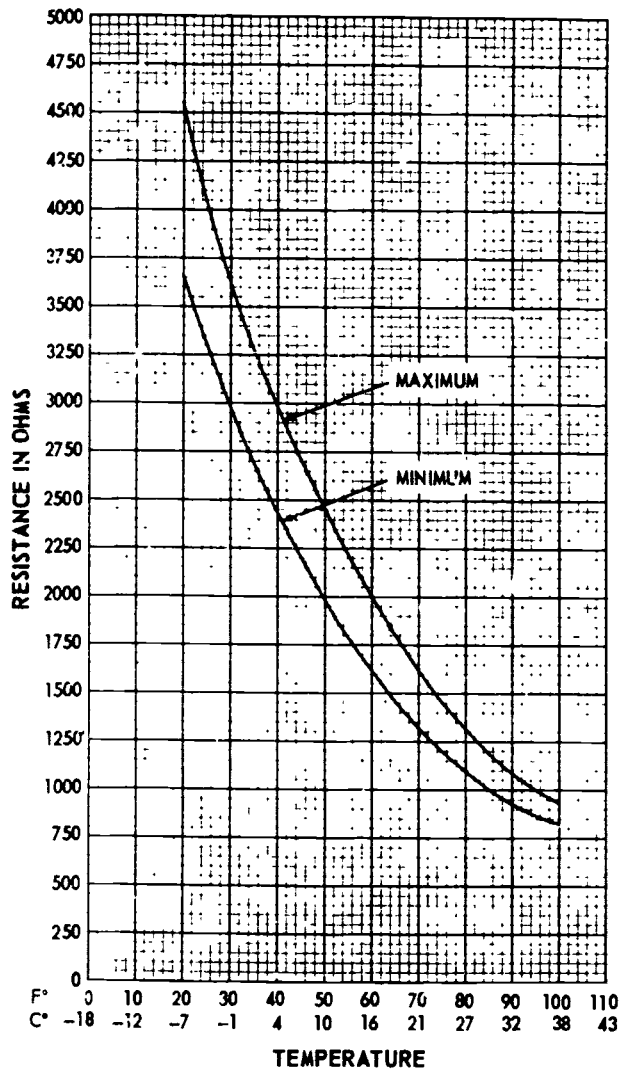
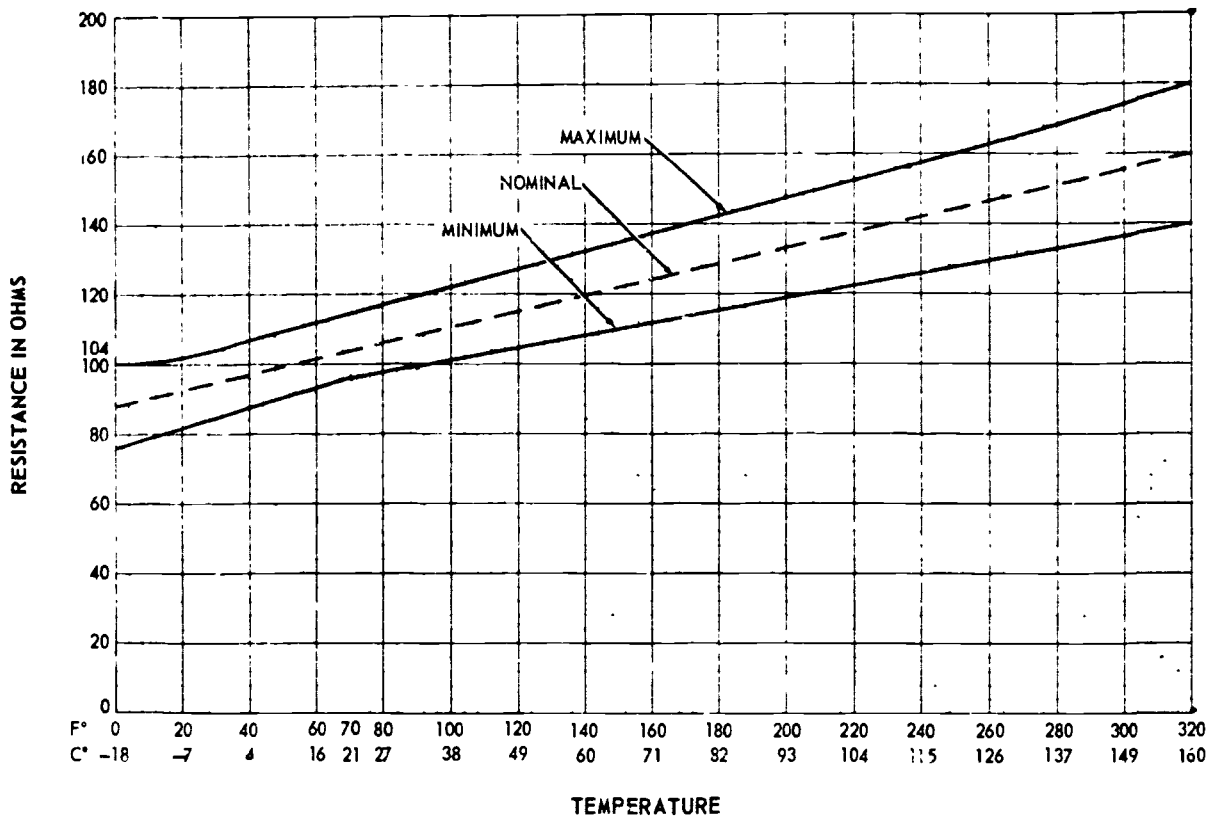

Figure 4. Cabin Temperature Sensing Element Resistance.
Figure 5. Duct Temperature Sensing Element Resistance.
e. Now that you have completed your sensor resistance check, you need to determine if the resistance is correct. Normally this is done by referring to temperature-resistance graphs in the applicable aircraft technical order. However, we have reproduced these graphs for you to use. Figure 4 is the temperature-resistance graph for the cabin sensor and figure 5 is the temperature-resistance graph for the duct sensor. Using these graphs, determine if your sensor resistance readings are correct.
g. Instructions for using the DUCT temperature sensor resistance graph (figure 5.)